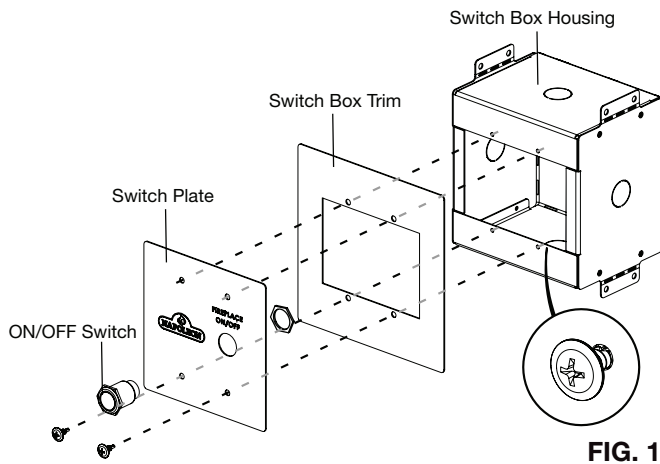

FIG. 1
1. Assemble the control switch (FIG. 1).